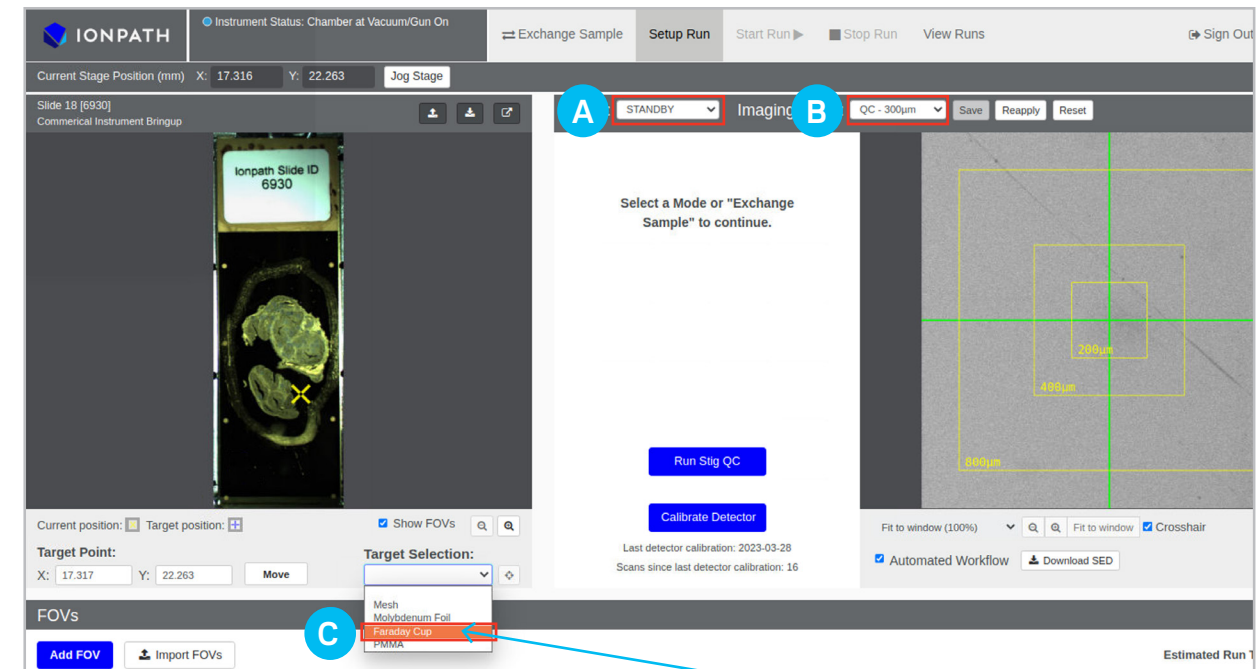

FIGURE 3.1 For Beam QC setup.
2. On the **Target Selection** dropdown (Figure 3.1, C), select **Faraday Cup** to move the stage to the Faraday Cup target.
3. Select **SED** on the **Mode** dropdown (Figure 3.1, A). An image of the Faraday Cup will be displayed on the right; adjust the coarse **Gain** slider in order to visualize the image.
7. On the **Imaging Mode** dropdown (Figure 3.1, B), select **Coarse**.